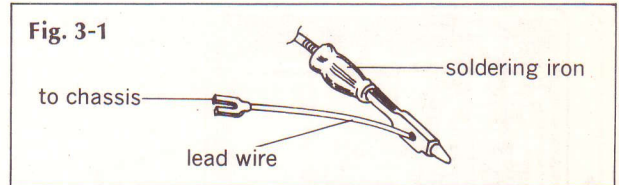

Fig. 3-1
- 2) When using a soldering iron, IC should be absolutely isolated from current leakage of the iron. In order to protect IC against break-down, connect a lead wire from the iron to ground (chassis) as shown below. (Fig. 3-1)